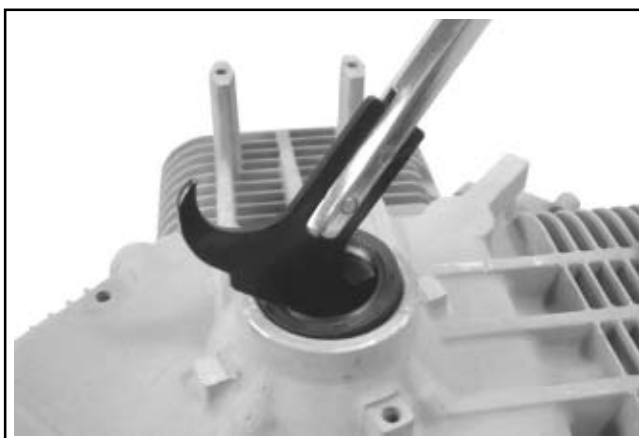

Figure 9-72. Removing Oil Seal.
1. Remove oil seal from crankcase. See Figure 9-72.